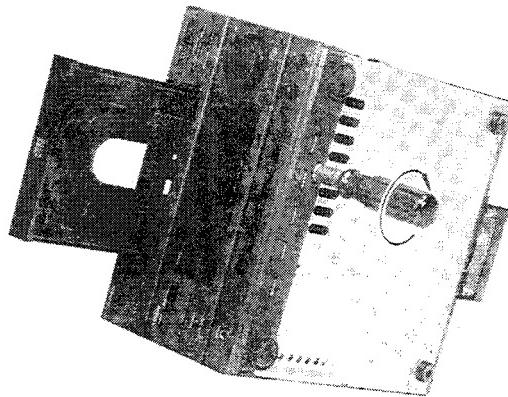

Fig. 2
4. If the power can not be turned on due to malfunction, etc., turn the plastic screw located on the bottom plate under the front panel in the direction of the arrow (clockwise) to move the tray out, as shown in the Fig.2.